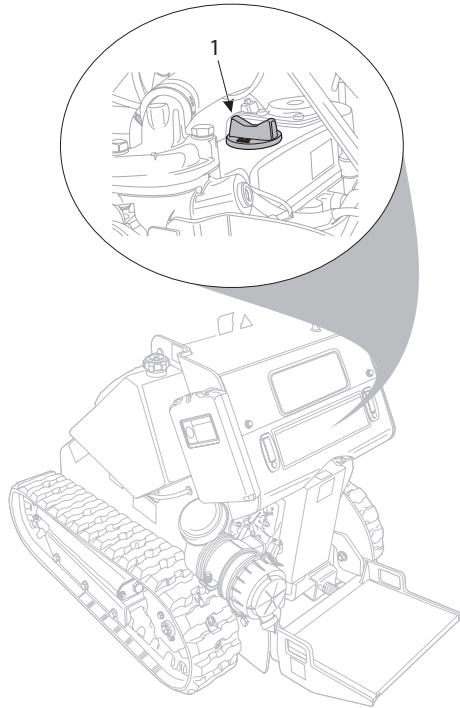

Figure 3-2 Engine Oil Filler Cap
- If the engine oil level is below the bottom line, carefully add the proper amount of oil through the engine oil filler until the level is even with the top line (Item 1, **Figure 3-2**). To reach the oil filler cap, remove the lower locking service panel. It is important to add the correct type of engine oil as stated in the engine manual.